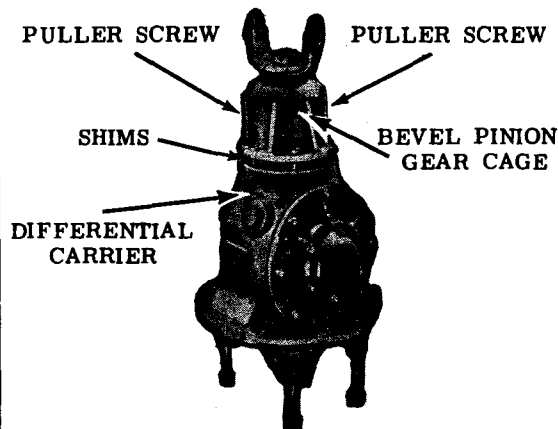

Figure 33. Removing bevel pinion gear cage.
- i. Install two puller screws into the bevel pinion gear cage as shown in figure 33. Turn the screws in until the bevel pinion gear cage is free of the differential carrier. Tie the shim pack to bevel gear cage to facilitate adjustment when assembling.